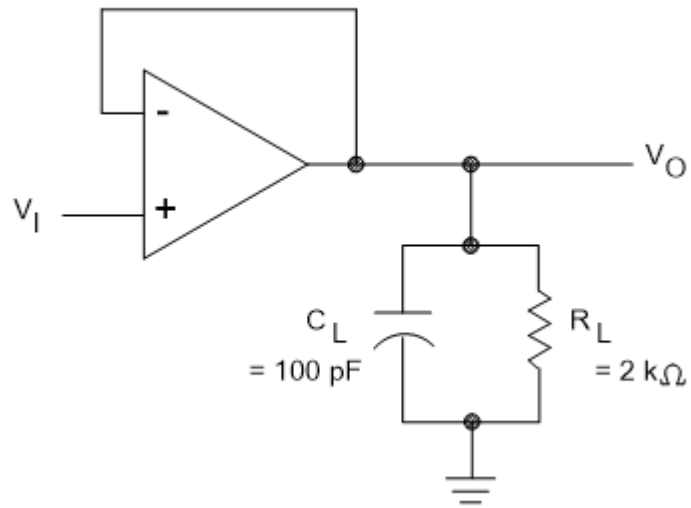

FIGURE 5. Unity gain amplifier.
3.5.5 Unity gain amplifier. The unity gain amplifier shall be as shown in figure 5.